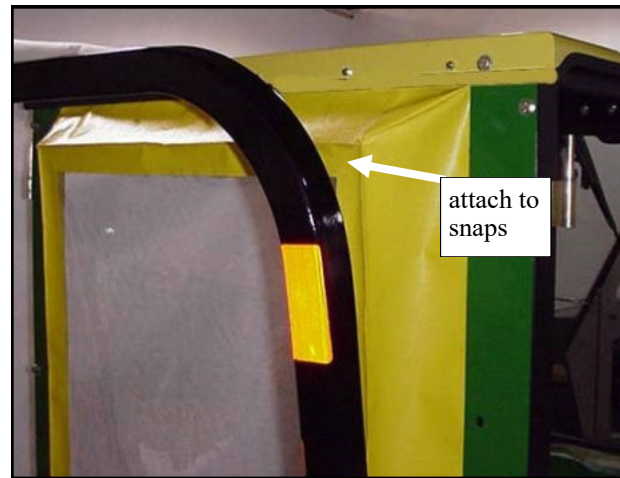

Fig. 13.3 Soft side rear curtain
13.3 Attach the top of the rear curtain to the newly installed snaps. See fig. 13.3.